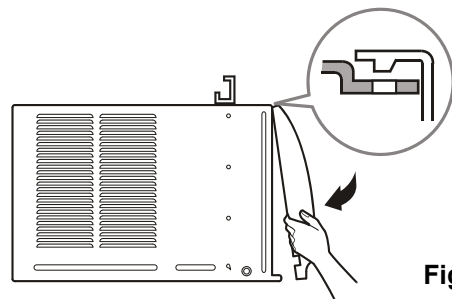

Fig.11
14. Attach the front grille to the cabinet by inserting the tabs on the grille into the tabs on the front of the cabinet. Push the grille in until it snaps into place. (Fig.11)